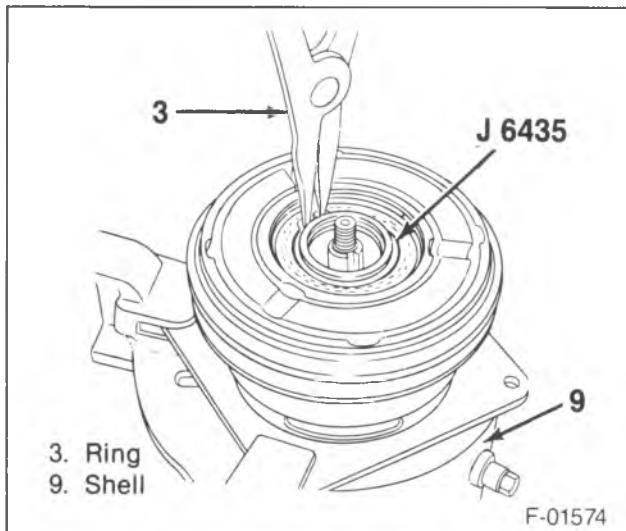

Figure 6—Removing the Pulley Retainer Ring
- Clutch plate and hub assembly (2).
- Pulley bearing retainer (2) with J 6435 (figure 6).
- Pulley (6).